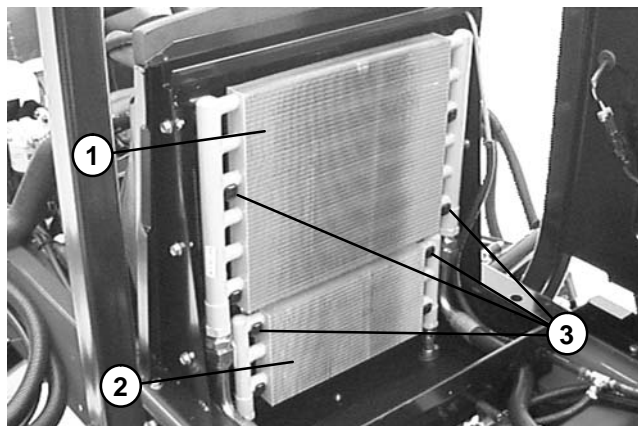

Figure 102
1. Carefully lift the hydraulic oil cooler or the transmission heat exchanger up and out of its support hooks (Fig. 102).
2. Carefully lift the hydraulic oil cooler or the transmission heat exchanger up and into its support hooks (Fig. 102).